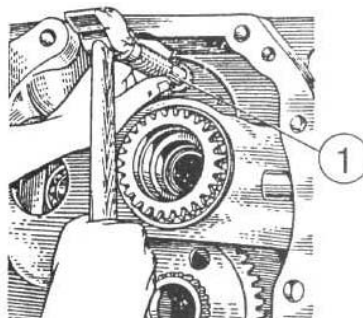

Figure 4.41
- c) using knocker 1 (Figure 4.41) press gear axle off clutch body;